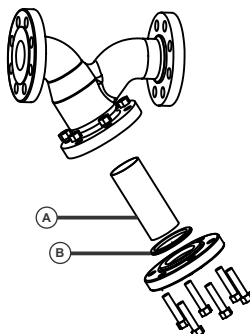

Figure 5 : Exploded view of Forbes Marshall Cast Strainer
9. Available Spares: [Refer figure 5]